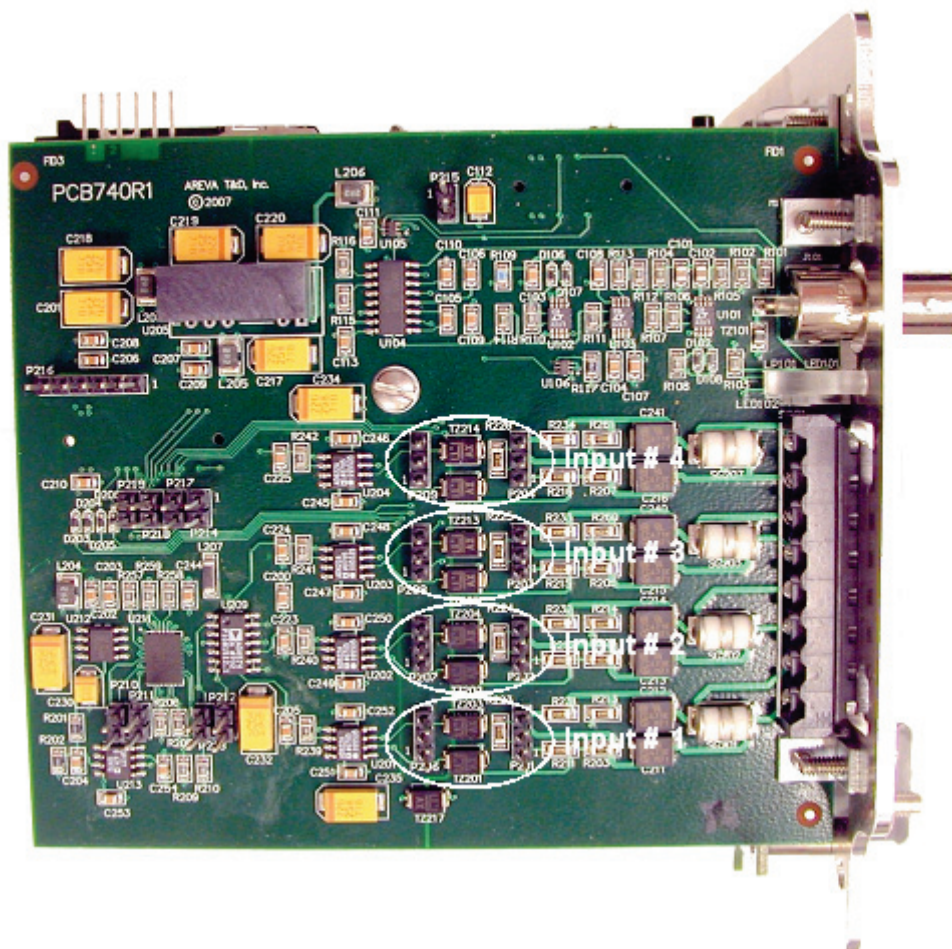
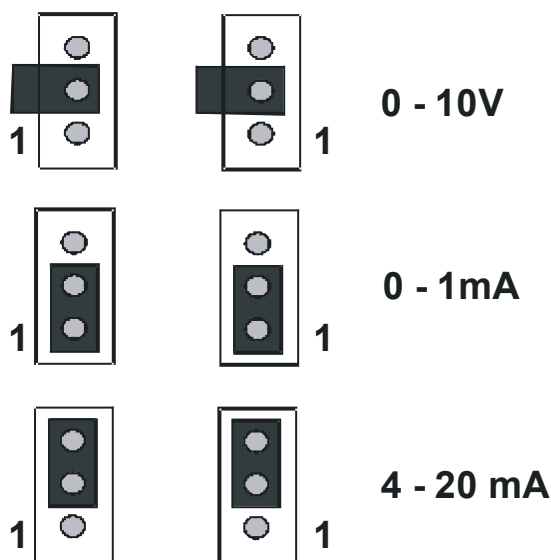

Figure 12 – Analog Input Type Jumper Locations
Figure 13 – Transducer Input Type Jumper Configuration
3. Remove the screws shown in Fig 12
5. Locate analog input module and jumpers as shown in Fig 13.
Figure 12 (Analog Input Type Jumper Locations) shows the location of each input's jumper block pair. Each jumper block pair consists of two three pin headers and each header is shipped with a shorting block. The position of the shorting block on the header determines the input type configuration. Figure 13 (Transducer Input Type Jumper Configuration) demonstrates the shorting block positions for the three valid input configuration options.